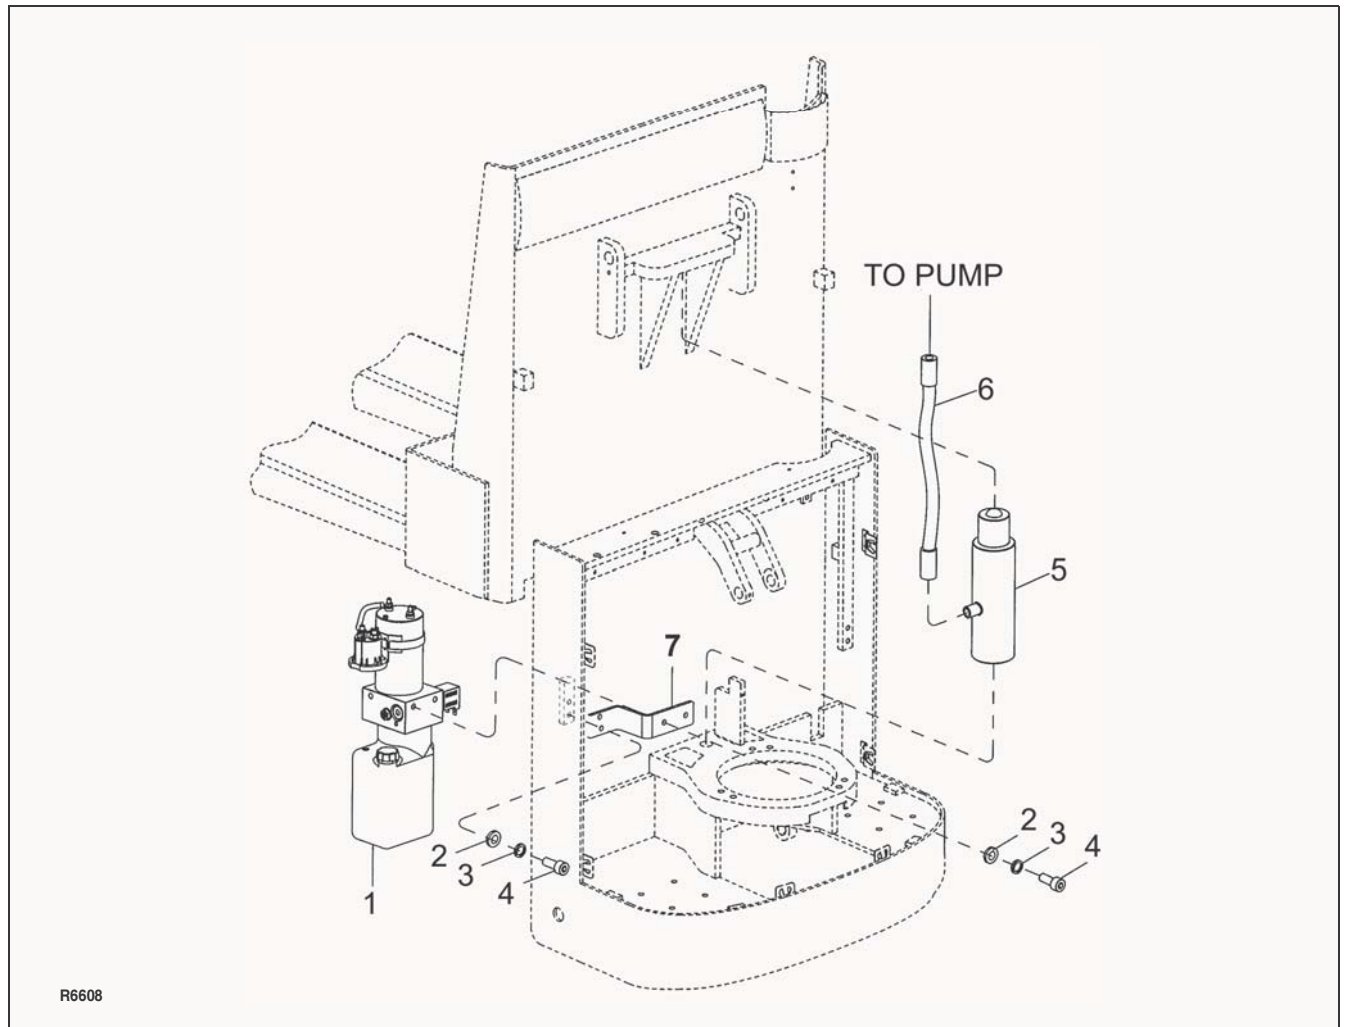

Figure 9-1 Hydraulic System
4. Refer to Figure 9-1 and remove leaking line or fitting and replace it with a new line or fitting.
5. Disconnect hose (6, Figure 9-1) from pump/motor assembly (1).
6. While supporting the pump/motor assembly (1), remove two screws (4), two washers (3) and two flat washers (2).
7. Remove the pump/motor assembly (1) with bracket (7).
8. Remove two screws (4), two washers (3) and two flat washers (2) and bracket (7) from pump/motor assembly (1).
1. Position bracket (7, Figure 9-1) on pump/motor assembly (1) and secure with two screws (4), two washers (3) and two flat washers (2).
2. While supporting the pump/motor assembly (1), install two screws (4), two washers (3) and two flat washers (2).
3. Reconnect hose (6, Figure 9-1) to pump/motor assembly (1).
5. Disconnect hose (6, Figure 9-1) from cylinder (5).
2. Reconnect the hose (3, Figure 9-1) to cylinder (1) with new O-ring (2).